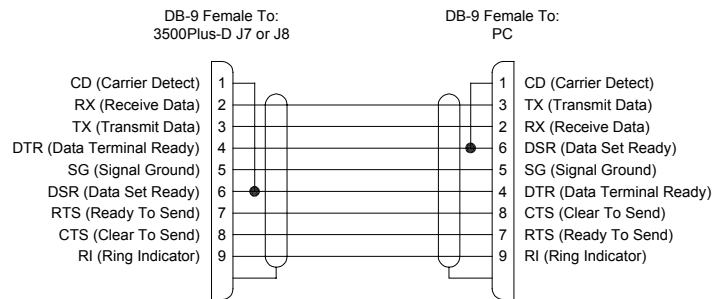

Figure 26. 3500Plus-D RS-232 CPU Link (Null Modem) Cable
- COM 1 is the primary RS-232 CPU Link and may be connected to the PC running Win3500Plus Control System software with a null modem cable (Part No. 81-9028-0393-0). If necessary, a cable up to 50 feet in length may be fabricated in the field as shown in Figure 26. COM 1 may only be used with the P1E protocol, at either 9600 or 38400 baud. The communication rate is selected with switch S1 as described in “S1-3 COM 1 Rate” on page 31.